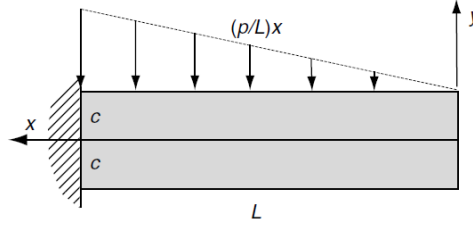

Figure 3
8. To solve the problem of a cantilever beam (of unit width) carrying a uniformly varying loading as shown in Figure 3, the following Airy stress function form is proposed: $\varphi = C_1xy + C_2\frac{x^3}{6} + C_3\frac{x^3y}{6} + C_4\frac{xy^3}{6} + C_5\frac{x^3y^3}{9} + C_6\frac{xy^5}{20}$. Determine the values of the various constants such that all conditions on the problem are satisfied. Use resultant force boundary conditions at the beam-ends.